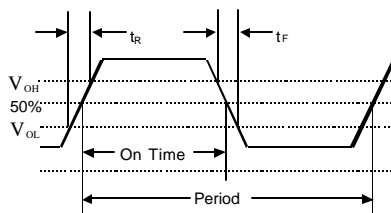
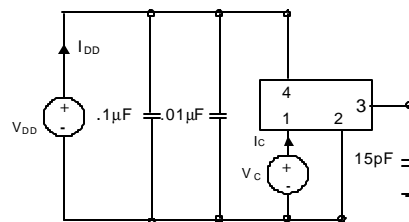

Figure 3. Output Waveform
Figure 4. Typical Output Test Conditions ( $25 \pm 5^\circ\text{C}$ )
2. Figure 3 defines these parameters. Figure 4 illustrates the operating conditions under which these parameters are tested and specified. For  $f_o > 90\text{MHz}$ , rise and fall time is measured 20 to 80%.